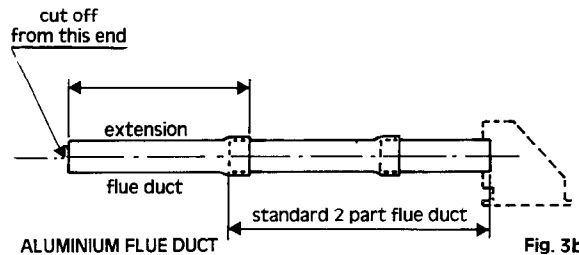

Fig. 3b
- Measure wall thickness (T).
- Add 74 mm, this will give required length (L).
- Mark plastic air duct for length (L) and cut off surplus (from plain end).
**N.B.** If extension sections are used ensure these are firmly pushed together, see figs. 3b and 3c.